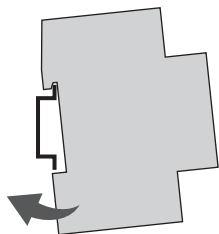

Fig. 4: Installation on a DIN rail
1. Place the DIN-rail timer on the DIN rail (Fig. 4) from above and press it back until it locks into place.